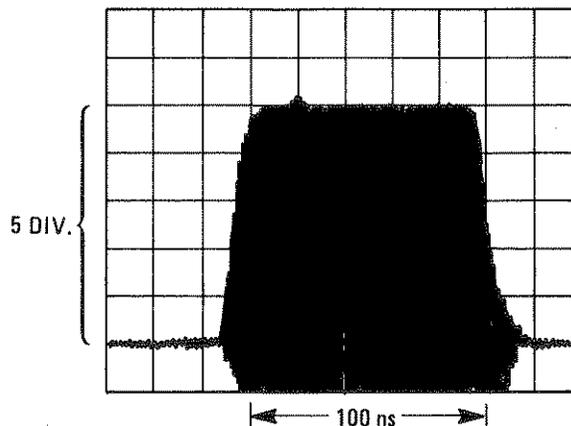

Figure 4-28. Pulse Rise/Fall Time and Overshoot Waveform
6. Adjust the oscilloscope to center the pulse waveform. Adjust the vertical controls for a 5 division peak pulse display. See Figure 4-28.